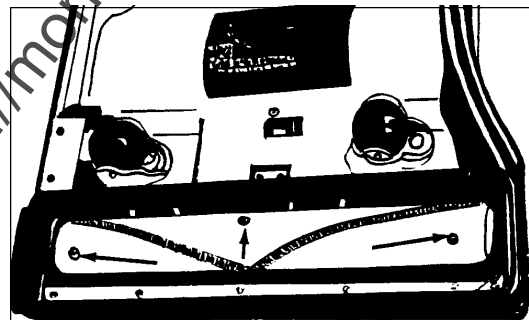

Figure 11
1. Remove the three screws from each half. See figure 11.